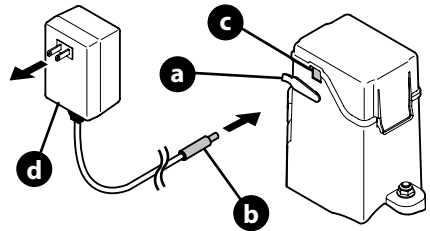

Figure 29
1. Open the charging port cover (a) and plug the charger lead (b) into the charging port (c) (Figure 29).